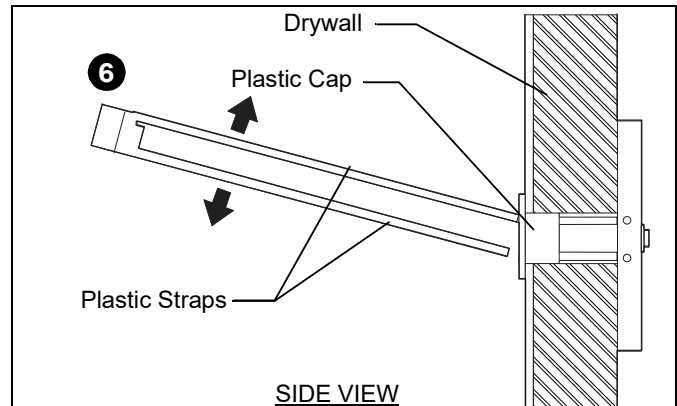

Figure 9
6. Snap off plastic straps on anchor at wall by pushing side to side, snapping off straps level with flange of plastic cap. (See Figure 9)